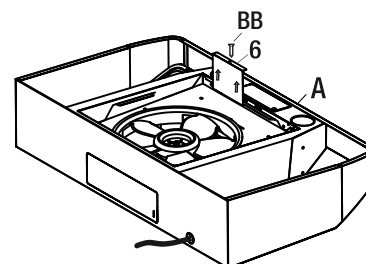

Fig. 12
- If you are venting indoors, unscrew the screw holding cover (6) in place and remove the cover as per Fig. 12. DO NOT REMOVE ANY OTHER VENTING HOLE COVER.